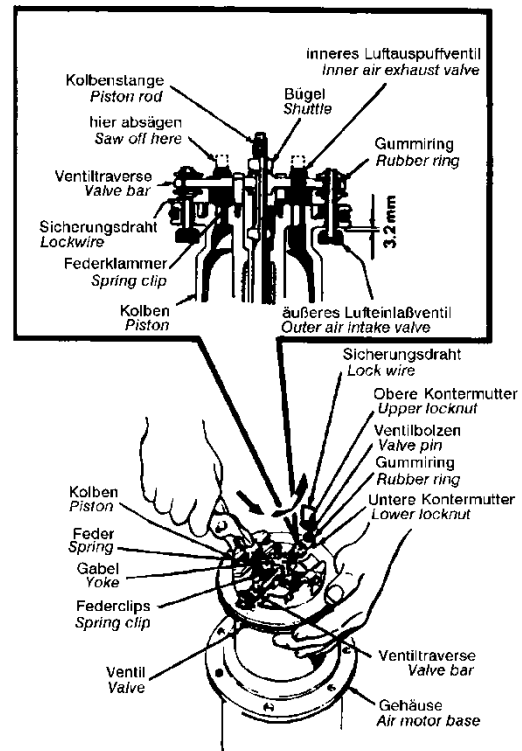

figure 3
- i) Before inserting the locking wire, adjust the clearance of the external valves follows: Check clearance between inlet valve and valve seat to be 3.2 mm (see figure 3); screw stems into the upper lock nuts until valve clearance is correct. Tighten lower and upper lock nut without changing the adjustment. Align bores of lock nuts, insert locking wire and bend over the ends. Move mechanism upwards and downwards to check function.